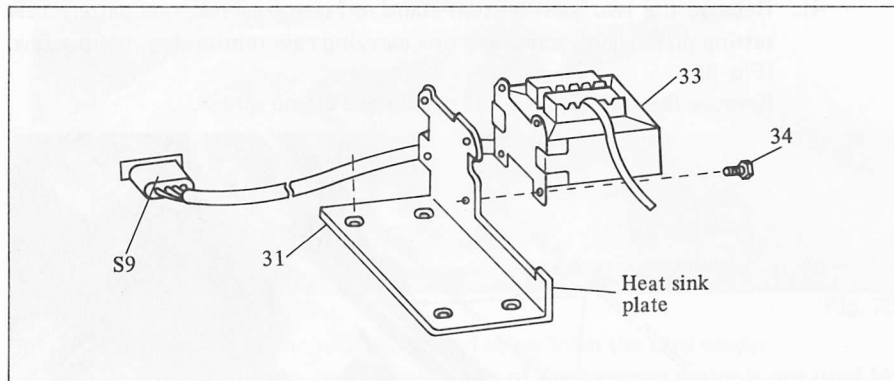

Fig. 81
- 9). Remove the four power transformer clamp screws and remove the power transformer from the heat sink plate. (Fig. 81)